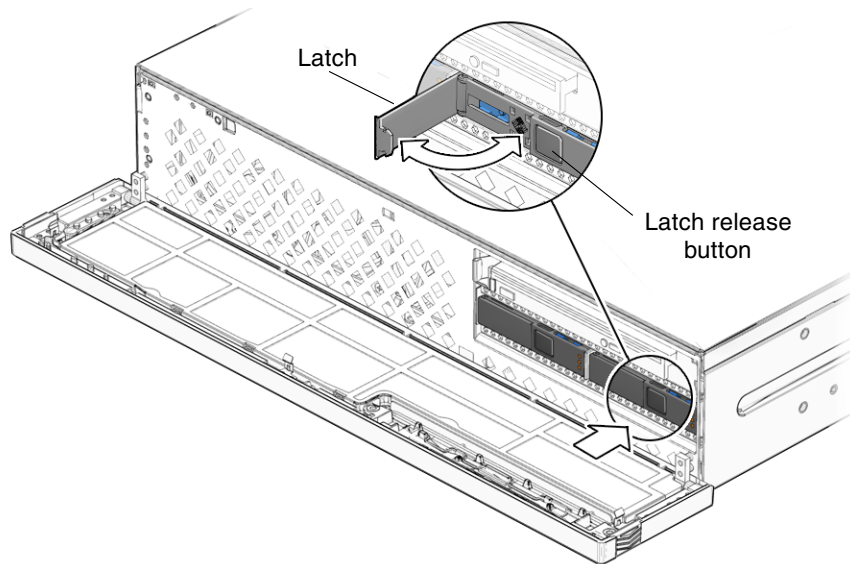

FIGURE 3-3 Opening Hard Drive Latch
4. On the drive you plan to remove, push the latch release button (FIGURE 3-3).